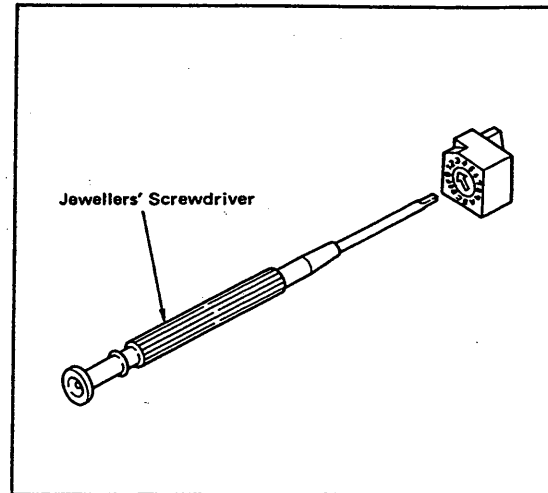

Figure 6-11.
- (3) Turn the POWER switch ON.
(4) With the input applied, adjust the zero and span adjustments using a jewellers' screwdriver (see Figure 6-11).